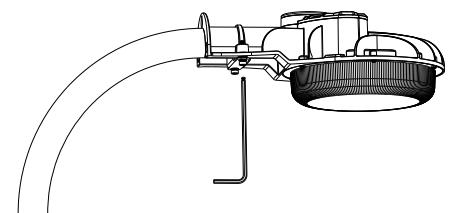

Figure 3
3. Tighten screws on the installation plate by M6 hex wrench (Figure 3)